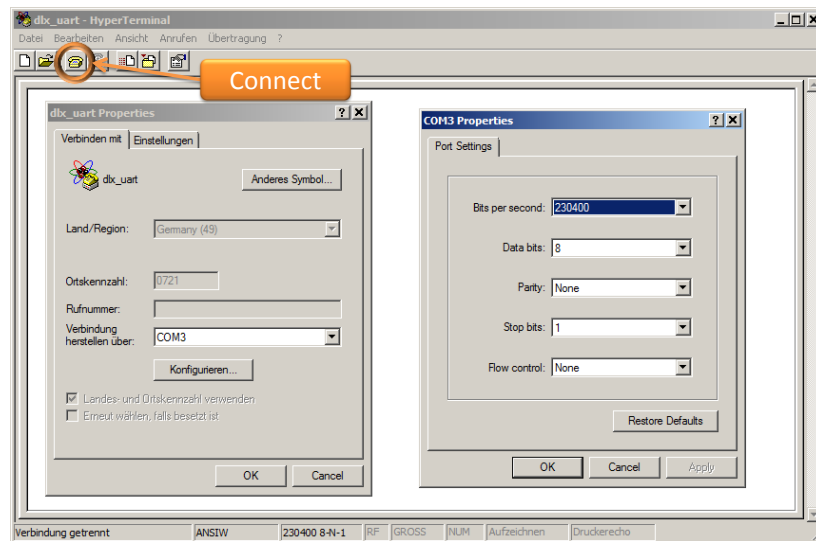

Figure 6-6: HyperTerminal settings
- You have to start the “*dlx\_uart.ht*” file under windows, which will open the MS Windows HyperTerminal with the correct settings (*Bits per Second=230400, Data Bits=8, Parity=None, Stop Bit=1, Flow Control=None*). You can find “*dlx\_uart.ht*” in `/home/asip00/ASIPMeisterProjects/TEMPLATE_PROJECT/Applications/Bootloader`). However, you may have to adapt the configured COM port, depending on which port you are connected to the FPGA (see Figure 6-6). Under, Ubuntu, you can start HyperTerminal by typing “*hterm &*” and can configure the settings as mentioned before. After that, you have to click the “*connect*” button to open the connection. Opening the connection always works without error message, but you have to make sure that the FPGA board is connected to the PC where you are running the HyperTerminal via UART.
- Now configure the FPGA Board to run with 40 MHz (see point (9) in Figure 6-6) and upload the bootloader bit-file (created in first step) with iMPACT. The UART port on the FPGA is configured to work with 40 MHz and if you use a faster or slower frequency, then you will not see the correct output via UART. The bootloader will prompt on the UART-Console for initializing the SRAM. It will ask for three things (you have to answer with pressing ‘y’ or ‘n’): Initialize IM, Initialize DM, and Start Application.